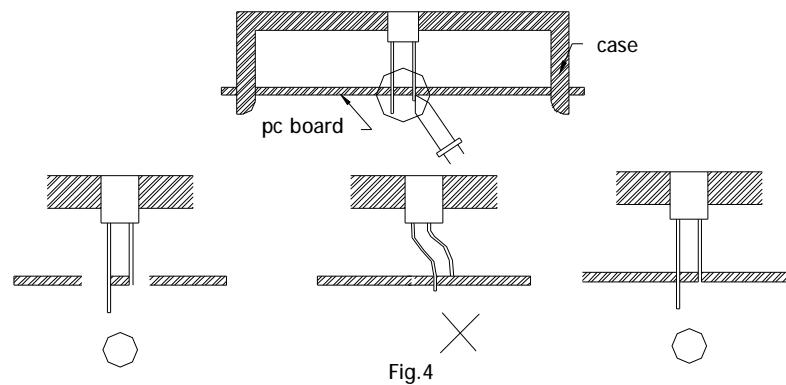

Fig.4
- 4) When mounting the LED by using a case, as shown Fig.4, ensure that the mounting holds on the PC board match the pitch of the leads correctly-tolerance of dimensions of the respective components including the LED should be taken into account especially when designing the case, PC board, etc. to prevent pitch misalignment between the leads and board holes, the diameter of the board holes should be slightly larger than the size of the lead. Alternatively, the shape of the holes should be made oval. (See Fig.4)